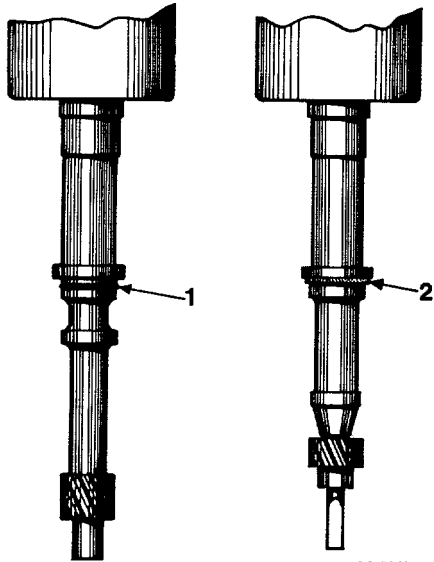

Fig. 7
7. Carefully withdraw distributor from engine. Do not lose gasket or "O" ring. See Figure 7 for gasket or "O" ring location on distributor.